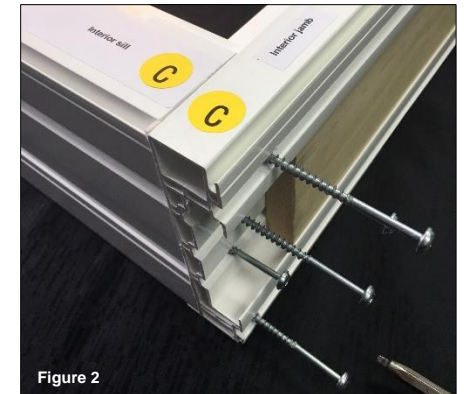

Figure 2
2. Use the #8-10 x 2 1/2" screws to attach the jambs to the head and sill (6 screws at each corner). Always screw horizontally (Figure 2).